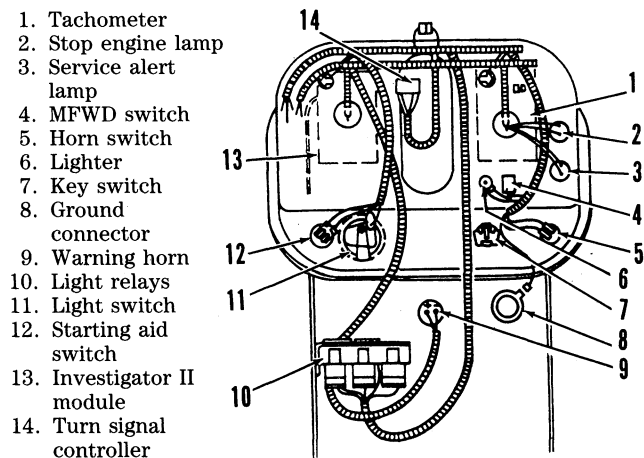

Fig. 295—Diagram of instrument panel harness used on tractors with Investigator II warning system and digital tachometer.
Fig. 296—Diagram of instrument panel harness used on tractors with gage cluster and analog tachometer. Refer to Fig. 295 legend except for time delay relay (15).